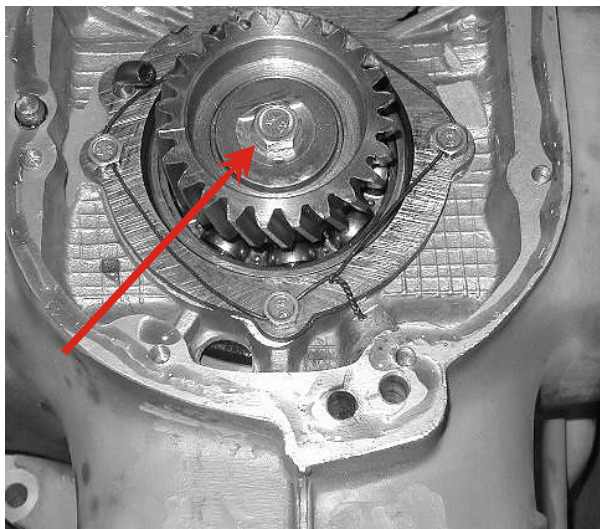

Fig.14
- Unbend the lock washer of the bolt fastening the timing drive gear, turn off the bolt, remove the drive gear with the help of puller 345-339-3 and remove the drive gear key (Fig. 14 and 15);